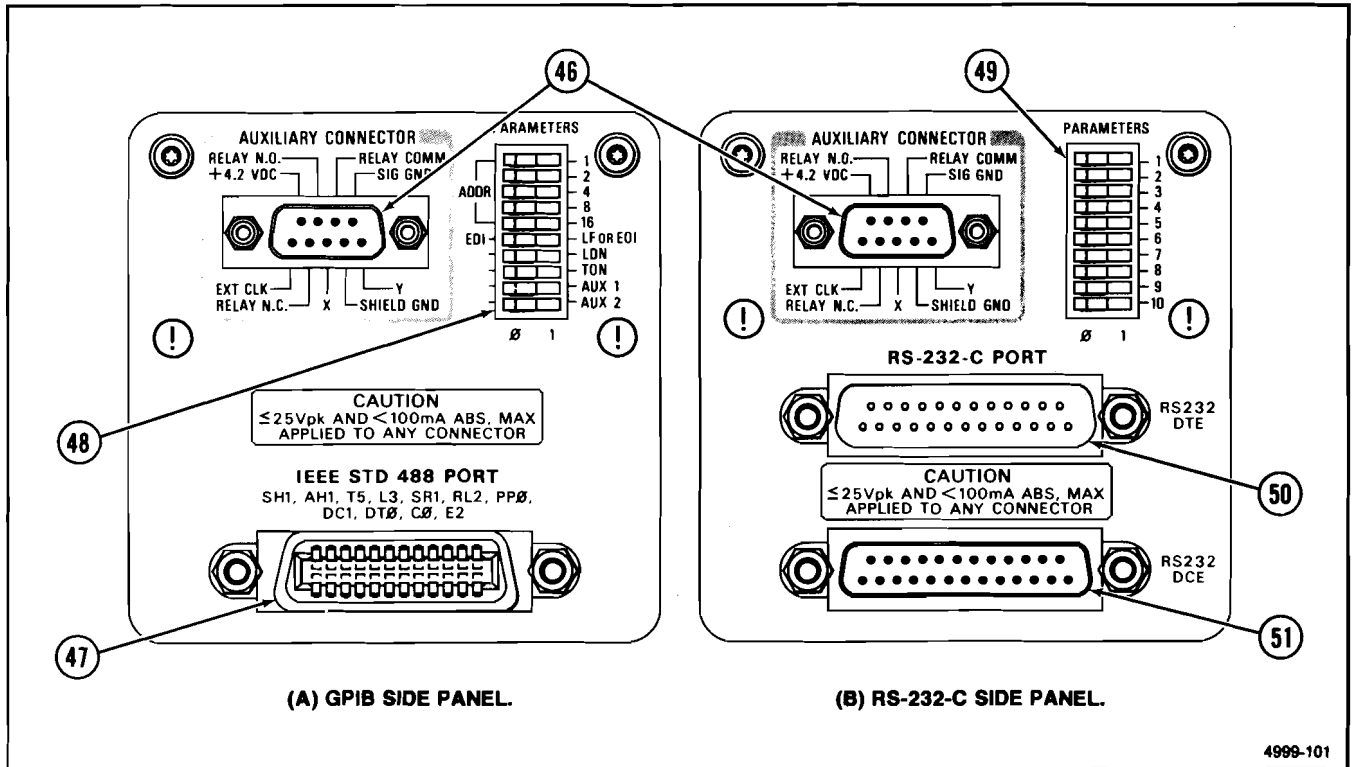

Figure 7-1. Option side panels.
The instrument is supplied with one of three possible side panels. The standard side panel (Figure 3-8) includes one AUXILIARY connector. The Option 10 side panel (Figure 7-1A) includes one AUXILIARY connector, one GPIB (IEEE 488-1978) interface port, and one PARAMETERS switch. The side panel for Option 12 instruments (Figure 7-1B) includes one AUXILIARY connector, one RS-232-C interface port (includes one DTE and one DCE connector), and one PARAMETERS switch. The Controls, Connectors, and Indicators part of this manual contains information on the use of the AUXILIARY Connector. Refer to Figure 7-1 for location of items 46 through 51.
- ④ **AUXILIARY Connector**—Provides connections for an X-Y Plotter and an External Clock input (see Controls, Connectors, and Indicators).
- ④ **GPIB Connector**—Provides the ANSI/IEEE Std 488-1978 compatible electrical and mechanical connection to the GPIB. The connector is only on instruments with Option 10. The function of each pin of the connector is shown in Table 7-5.